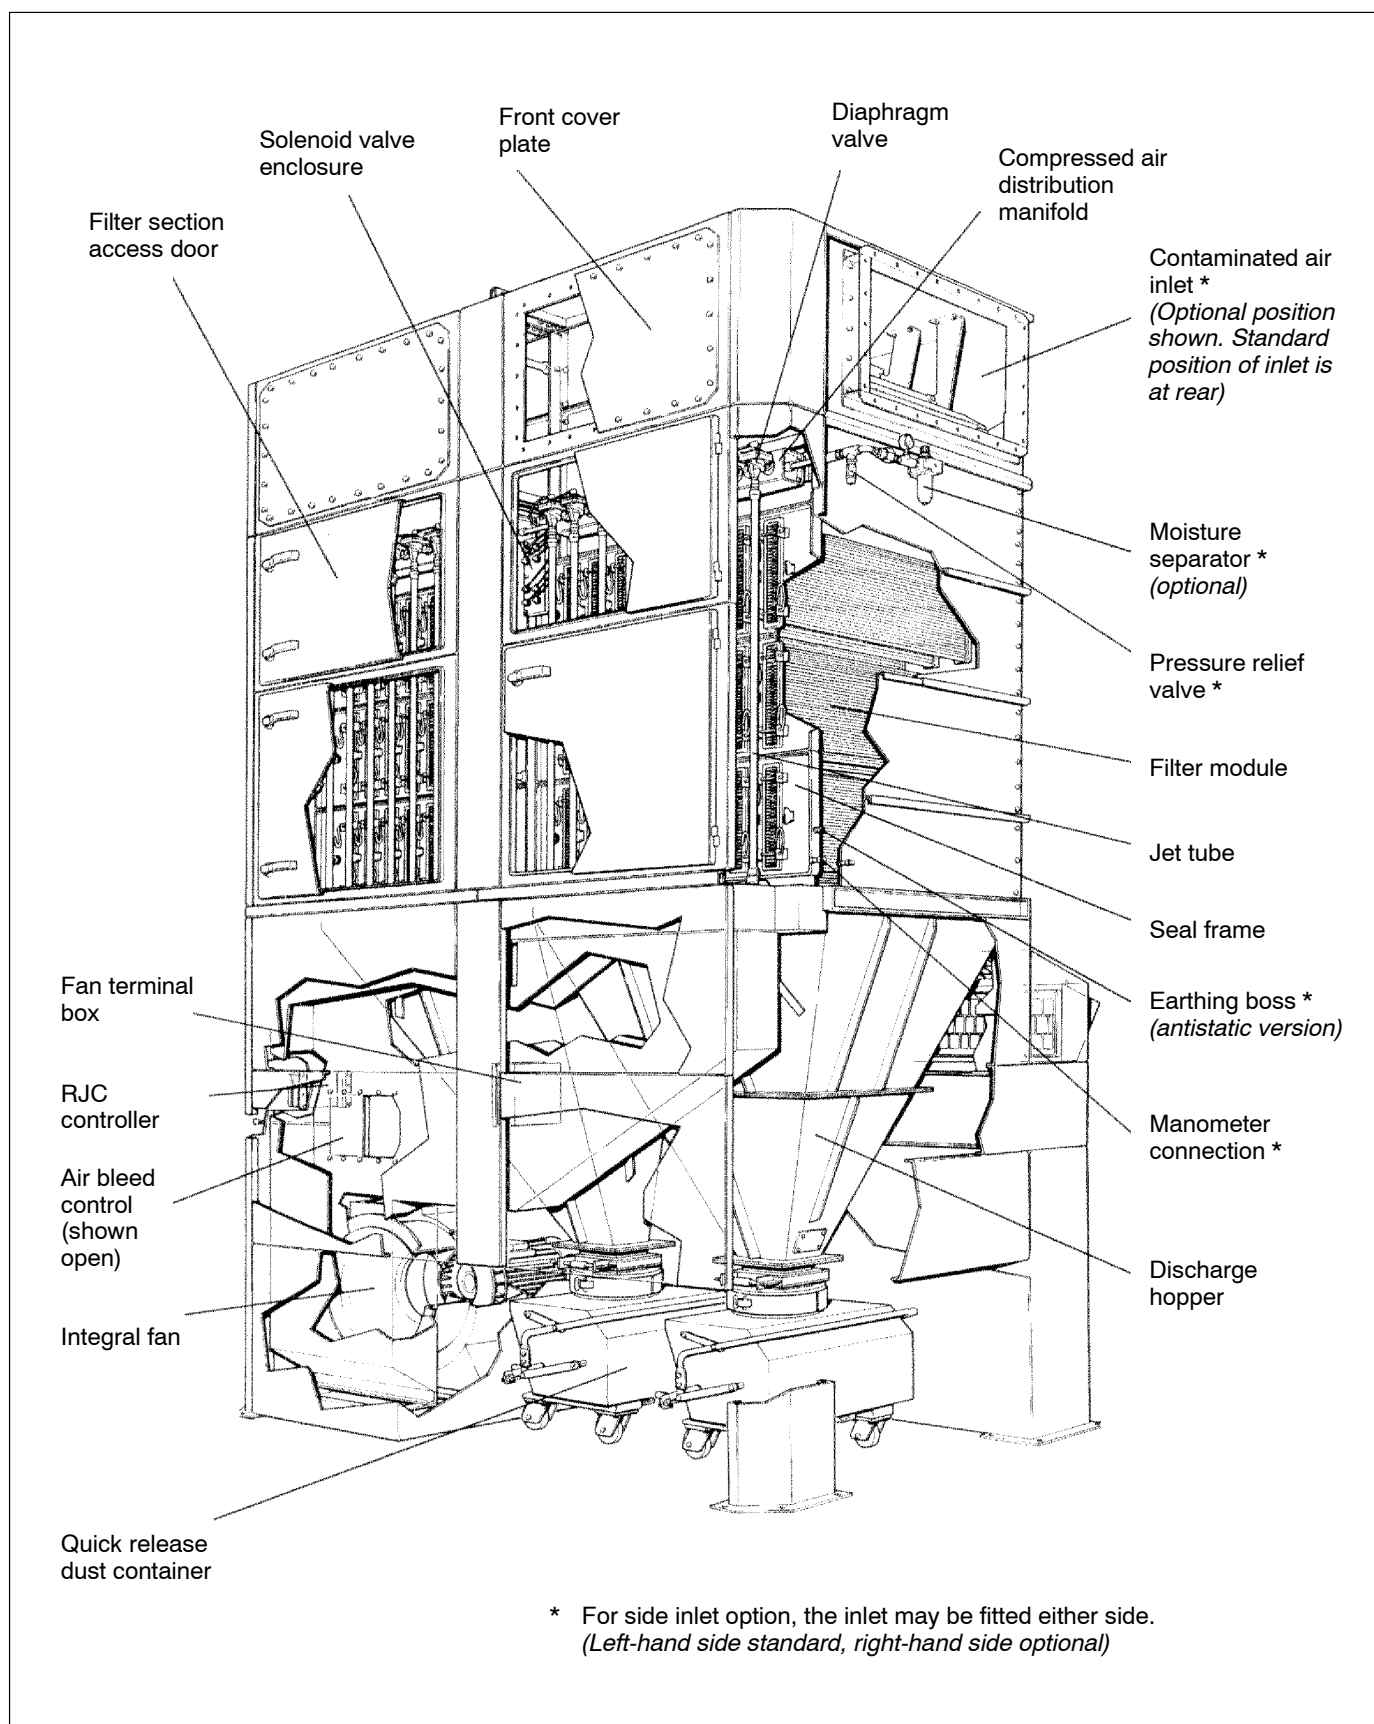

Fig. 2-1 Unicell concept filter, model C240 illustrated
The Unicell Concept filter range consists of five sizes (see Table 2-1). A number of identical sized filter modules are fitted to all filters (as indicated in Table 2-1). Each module gives an effective filtration area of 5m2. The filter assembly is contained in a steel housing complete with its own integral fan mounted in the base section, which also serves as an acoustic enclosure (see Fig. 2-1). Provision is made for inlet and outlet ducts. Discharge arrangement can be either by skip, dust container, screw conveyor or rotary valve as shown in Table 2-1. For further details refer to Publication 2296 and Data Sheet 2297.
### Filter modules (Figs. 2-1, 2-2 and 2-4)
### Seal frame (Figs. 2-1, 2-2 and 2-4)
An earthing boss is fitted to all antistatic versions of filters for antistatic earthing (see Fig. 2-1).
**Jet tubes** (Figs. 2-1, 2-2 and 2-4)
**Valves** (Figs. 2-1 and 2-3)
**2. Components** (contd.)**Compressed air distribution manifold** (Fig. 2-1)
**RJC controller (Fig. 2-1)**